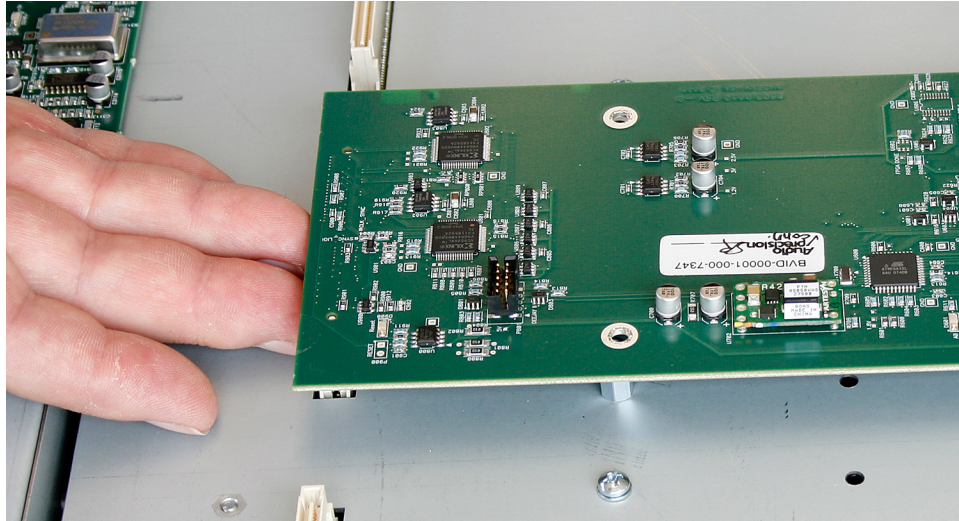

Figure 3 Unplugging the BVID board
4. Gently lift the end of the BVID board to unplug it from the connector, as shown in Figure 3.